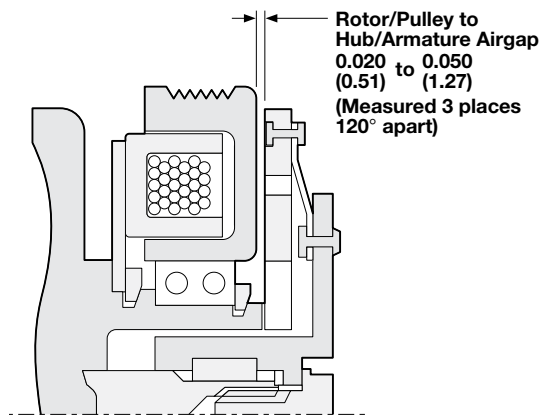

Figure 7
Step 4: Installing the Hub/Armature Assembly (9)
- A. Align the hub keyway with shaft key (7) and slide the hub/armature (9) onto the compressor shaft.
- B. Set the rotor/pulley to hub/armature air gap at 0.020 to 0.050 inches by adding or removing shims (8). Measure using a feeler gauge at 3 locations 120° apart. (See Figure 7)
- C. Install the lockwasher (10) and shaft nut (11). Torque to 155 lb.in. using a torque wrench and spanner wrench.
• Improper hub/armature to rotor/pulley air gap (too small)	• Reset air gap (See Figure 7)
• Improper hub/armature to rotor/pulley air gap (too big)	• Reset air gap (see Figure 7)